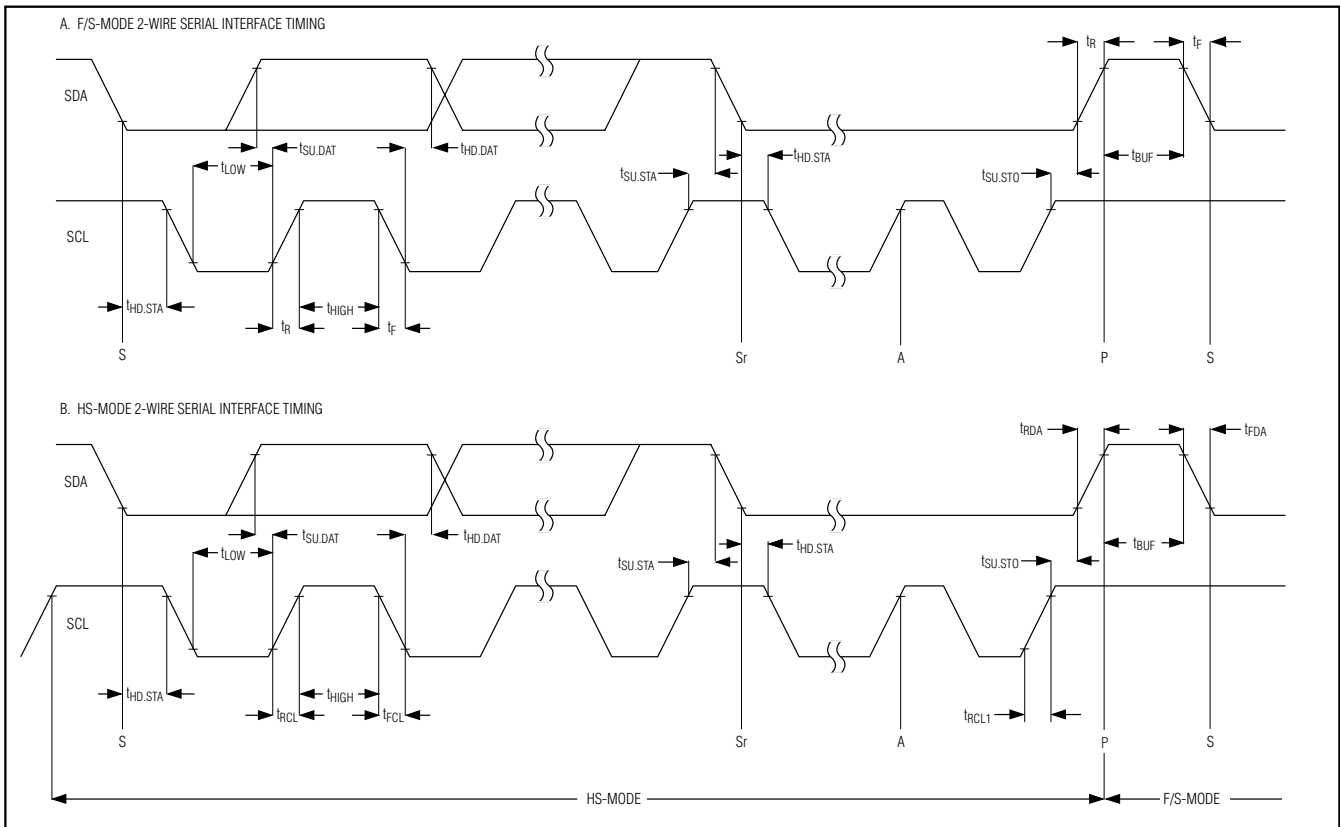

Figure 1. 2-Wire Serial Interface Timing
### TIMING CHARACTERISTICS (Figure 1)
## TIMING CHARACTERISTICS (Figure 1) (continued)
**Note 10:** A master device must provide a data hold time for SDA (referred to  $V_{IL}$  of SCL) in order to bridge the undefined region of SCL's falling edge (see Figure 1).
At power-up, the MAX1236-MAX1239 bus timing is set for fast-mode (F/S-mode), which allows conversion rates up to 22.2ksps. The MAX1236-MAX1239 must operate in high-speed mode (HS-mode) to achieve conversion rates up to 94.4ksps. Figure 1 shows the bus timing for the MAX1236-MAX1239's 2-wire interface.